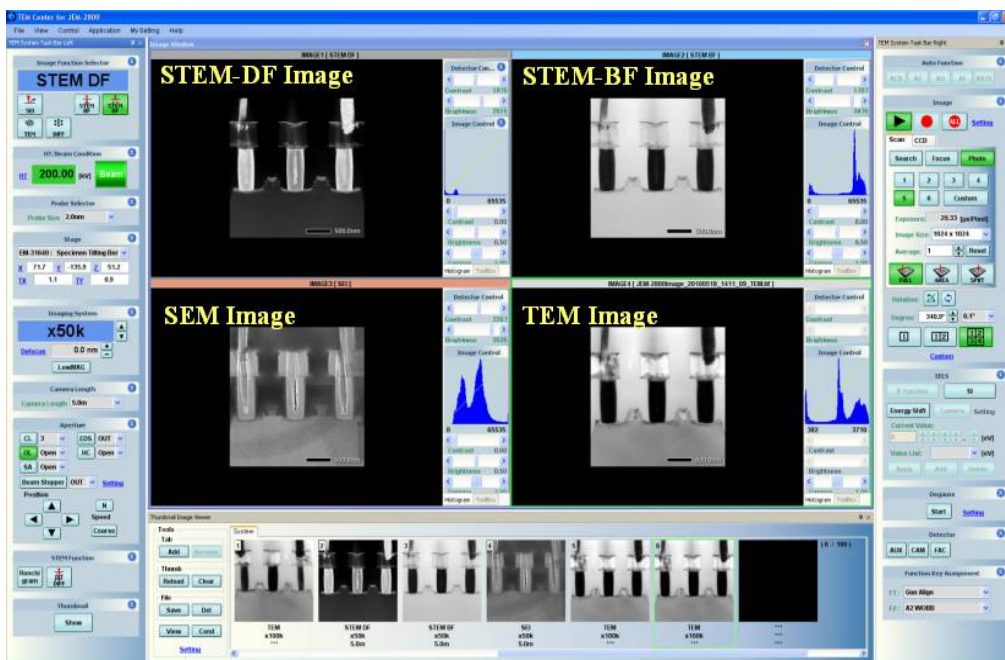
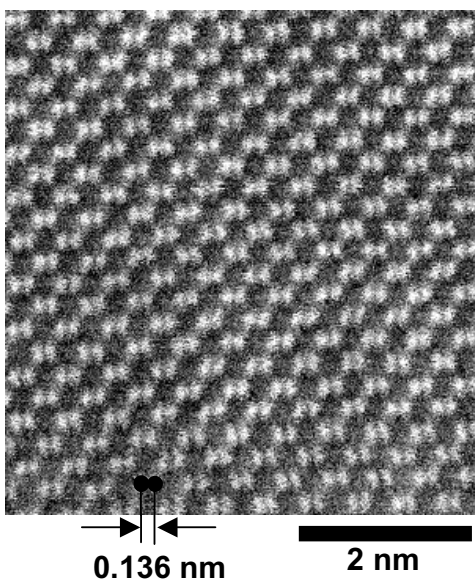

Fig. 1 Graphical user interface
Fig. 2 A STEM-HAADF image of a Si[110] single crystal taken at 200 kV.
1. **Basic improvement of operations:** TEM, STEM-BF, STEM-DF, SE images, and DPs can be observed by one-touch switch operation on a graphical user interface (GUI) as shown in Fig. 1. Automatic functions are added for inexperienced users. These are focus, stigmatism, Z-control, contrast & brightness, and crystal orientation adjustment functions.
3. **Advanced assist for users:** When measuring critical dimension (CD) measurement of semiconductors, it is preferable to rotate the TEM image. The rotation function of CCD camera has been prepared in order to satisfy such requirement. Moreover, a newly designed operation panels simplify operations of those microscopy. Besides, the images and the pattern are recorded in a common digital image format (BITMAP and TIFF).
5. **High resolution:** High-resolution images can be observed: resolution of 0.1 nm for TEM lattice image and of 0.2 nm for STEM lattice image, and point resolution of 0.5 nm for SE image can be obtained. A STEM high-angle annular dark field (HAADF) image of a Si[110] is shown in Fig. 2. Spacing between two silicon columns (0.136 nm) is clearly resolved.